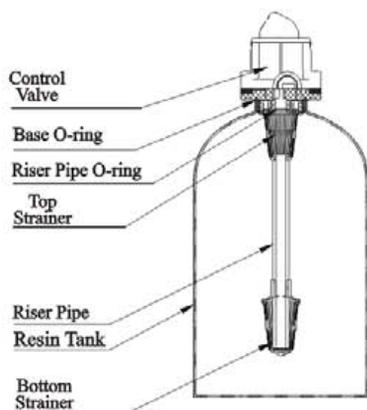

Figure 1-1
- ①The filter should be located close to drain.
- ②Ensure the unit is installed in enough space for operating and maintenance.
- ③ The unit should be kept away the heater, and not be exposed outdoor. Sunshine or rain will cause the system damage.
- ④ Do not install the filter , drain pipeline in circumstance which temperature may drop below 5°C, or above 50°C.
- ⑤One place is recommended to install the system which cause the minimum loss in case of water leaking.
①Install control valve
- a. As the Figure 1-1 shows, select the riser pipe with 26.7mm OD, glue the riser pipe to the bottom strainer and put it into the mineral tank, cut off the exceeding tube out of tank top opening. Plug the riser tube in case of mineral entering.